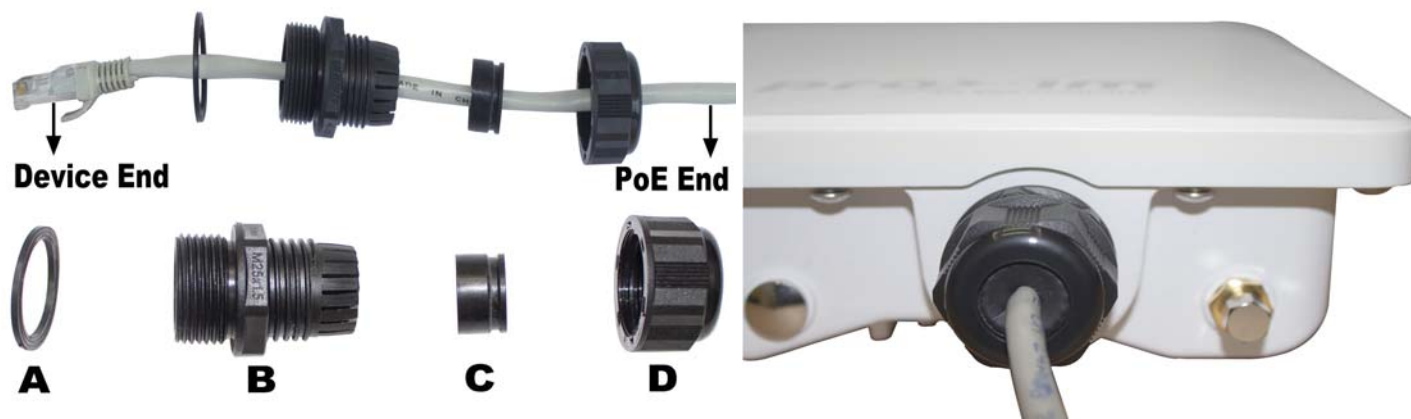

Figure 4-1 Weatherproofing RJ45 Connection
2. Insert the CAT5e cable through the Sealing Nut (D) and install the Compression Washer (C) to the cable. Compression Washer (C) has a slit in the middle for quick installation onto the cable.
3. Install the parts (D) and (C) in the direction as shown in Figure 4-1.
4. Insert the Flat Washer (A) onto the Connector Body (B) and then insert the CAT5e cable through the Connector Body (B).
8. Slide and Insert the Compression Washer (C) into the Connector Body Assembly.
9. Fasten the Sealing Nut (D) to the Connector Body Assembly and fully tighten it to weatherproof the cable.